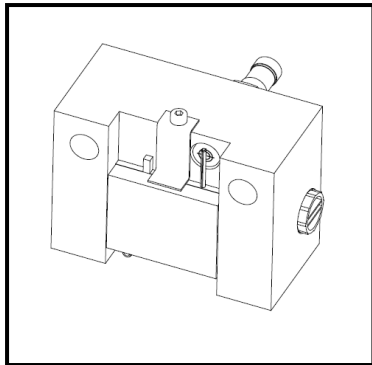

Bild 12.1
- If the inductive sensor option is available, disassemble the inductive sensor or turn the inductive sensor back to the inner surface of the brake housing so that the sensor cannot be damaged, see Figure 12.1.